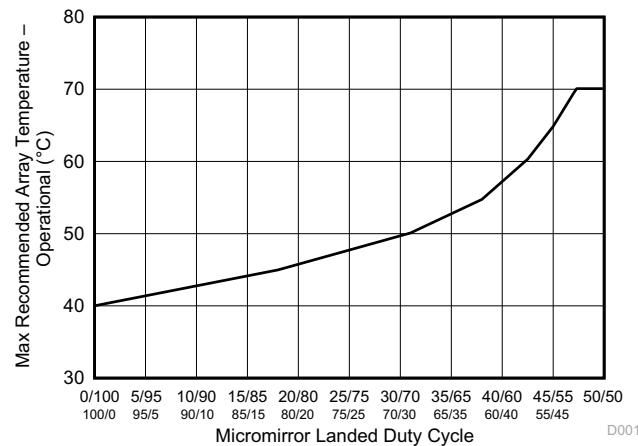

图 6-1. Maximum Recommended Array Temperature - Derating Curve
- (12) Per 图 6-1, the maximum operational array temperature should be derated based on the micromirror landed duty cycle that the DMD experiences in the end application. Refer to #7.7 for a definition of micromirror landed duty cycle.
- (13) Long-term is defined as the usable life of the device.
- (14) Short-term is the total cumulative time over the useful life of the device.
- (15) The maximum marginal ray angle of the incoming illumination light at any point in the micromirror array, including at the pond of micromirrors (POM), should not exceed 55 degrees from the normal to the device array plane. The device window aperture has not necessarily been designed to allow incoming light at higher maximum angles to pass to the micromirrors, and the device performance has not been tested nor qualified at angles exceeding this. Illumination light exceeding this angle outside the micromirror array (including POM) will contribute to thermal limitations described in this document and may negatively affect lifetime.